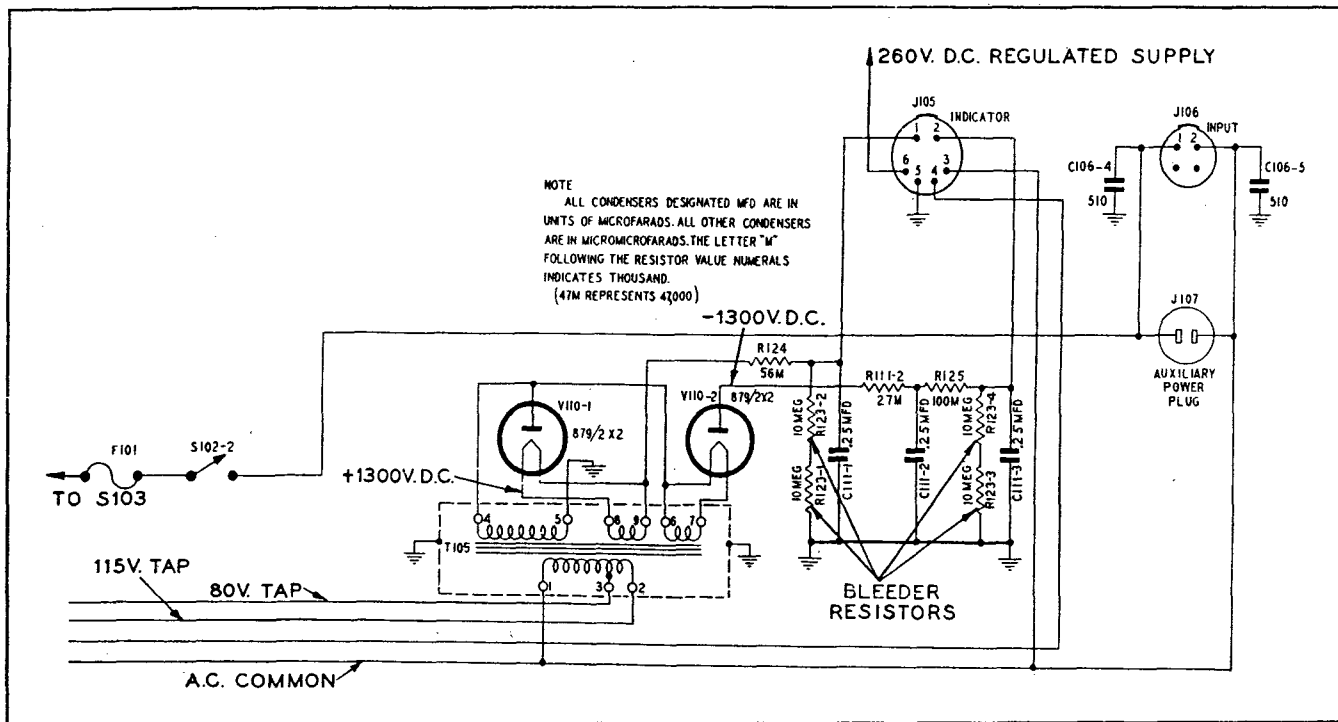

Figure 4-8. High Voltage Power Supply
(1) HIGH VOLTAGE POWER SUPPLY.—The power supply for the cathode ray tube is housed in the same case with the receiver. This high-tension supply provides 1300 volts d-c negative with respect to ground, and also 1300 volts direct current positive with respect to ground, or 2600 volts in all. See figure 4-8 for the high voltage rectifier circuit. Resistor R-124 and capacitor C-111-1 form the filter for the positive 1300-volt supply while resistors R-123-1 and R-123-2 act as a bleeder resistor to prevent the capacitor from holding a dangerous charge. This bleeder will discharge capacitor C-111-1 in the event the equipment is operated with the inter-connecting cord disconnected. Resistors R-111-2 and R-125 are the filter resistors of the negative 1300 volts supply, while capacitors C-111-2 and C-111-3 are the filter capacitors for this supply. Resistors R-123-3 and R-123-4 are the bleeders to prevent the retention of charge in the negative high-voltage supply.